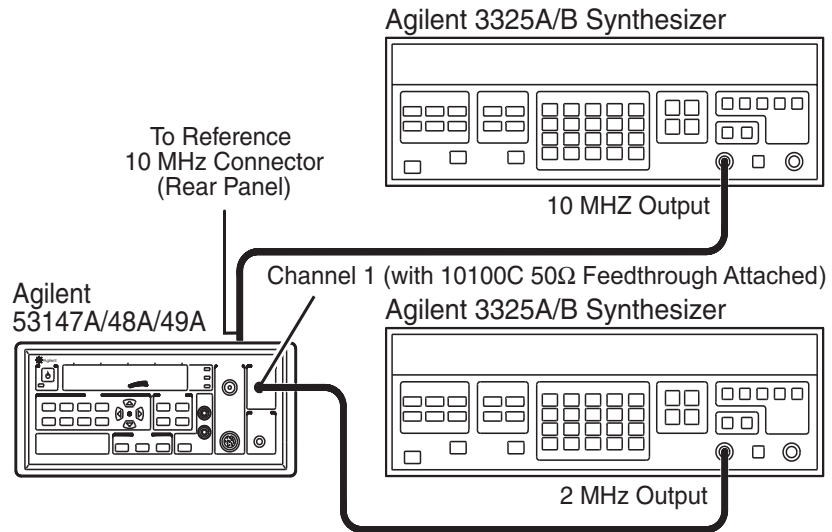

Figure 1-1. External Timebase Test Setup
- 1 Connect an Agilent 10503 series coaxial cable between the output of the first Agilent 3325A/B Synthesizer and the **Reference 10MHz** connector on the instrument's rear panel (see Figure 1-1).